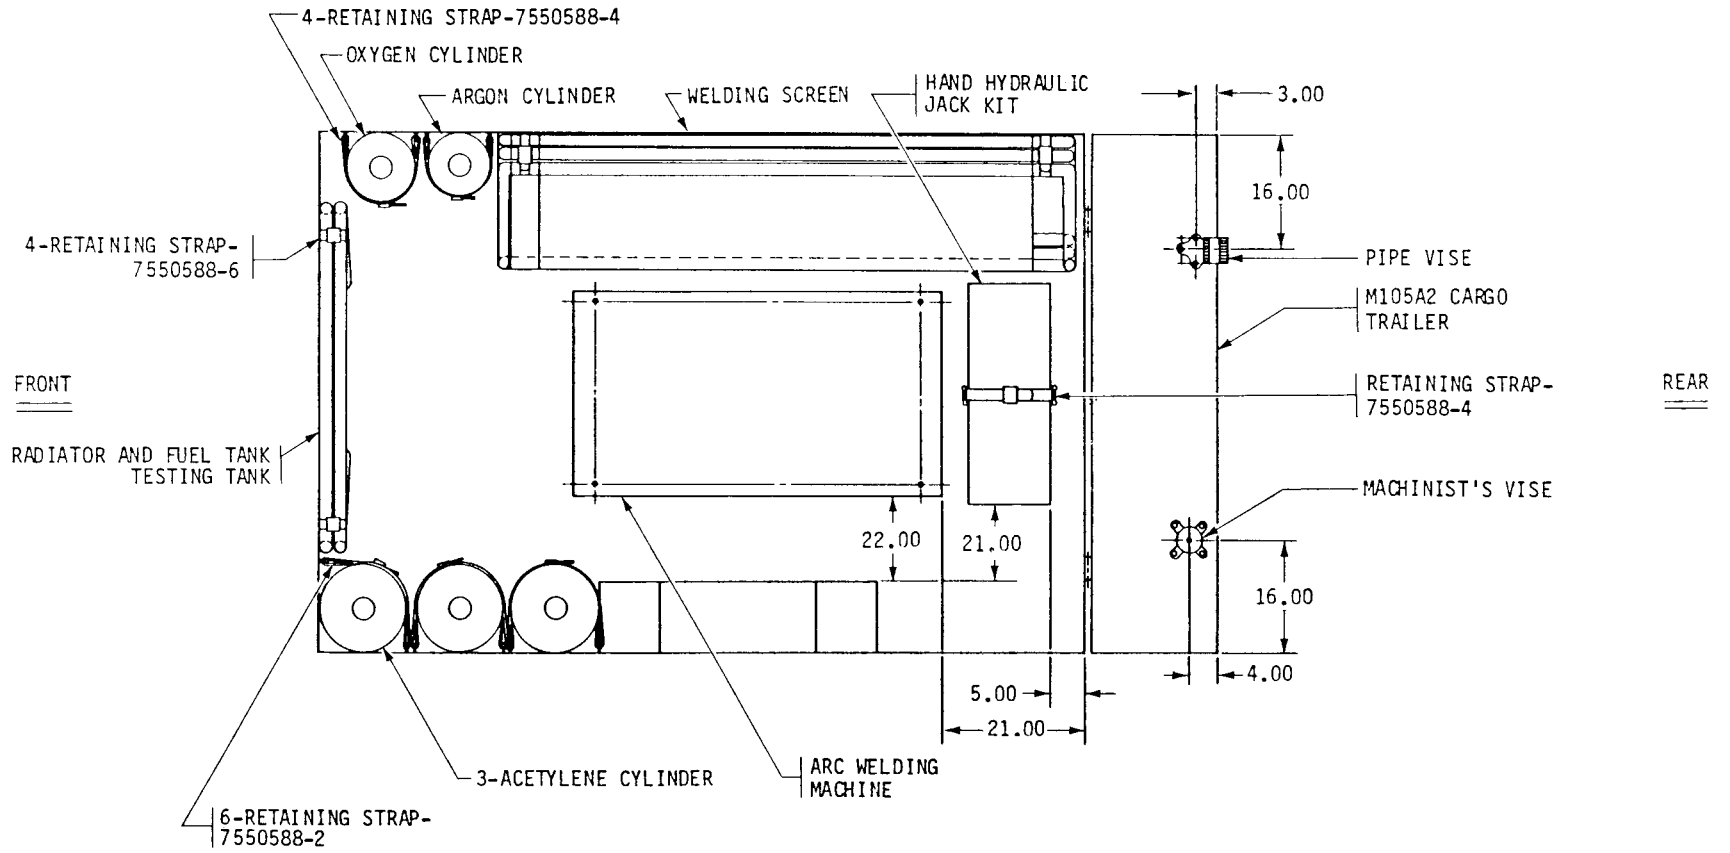
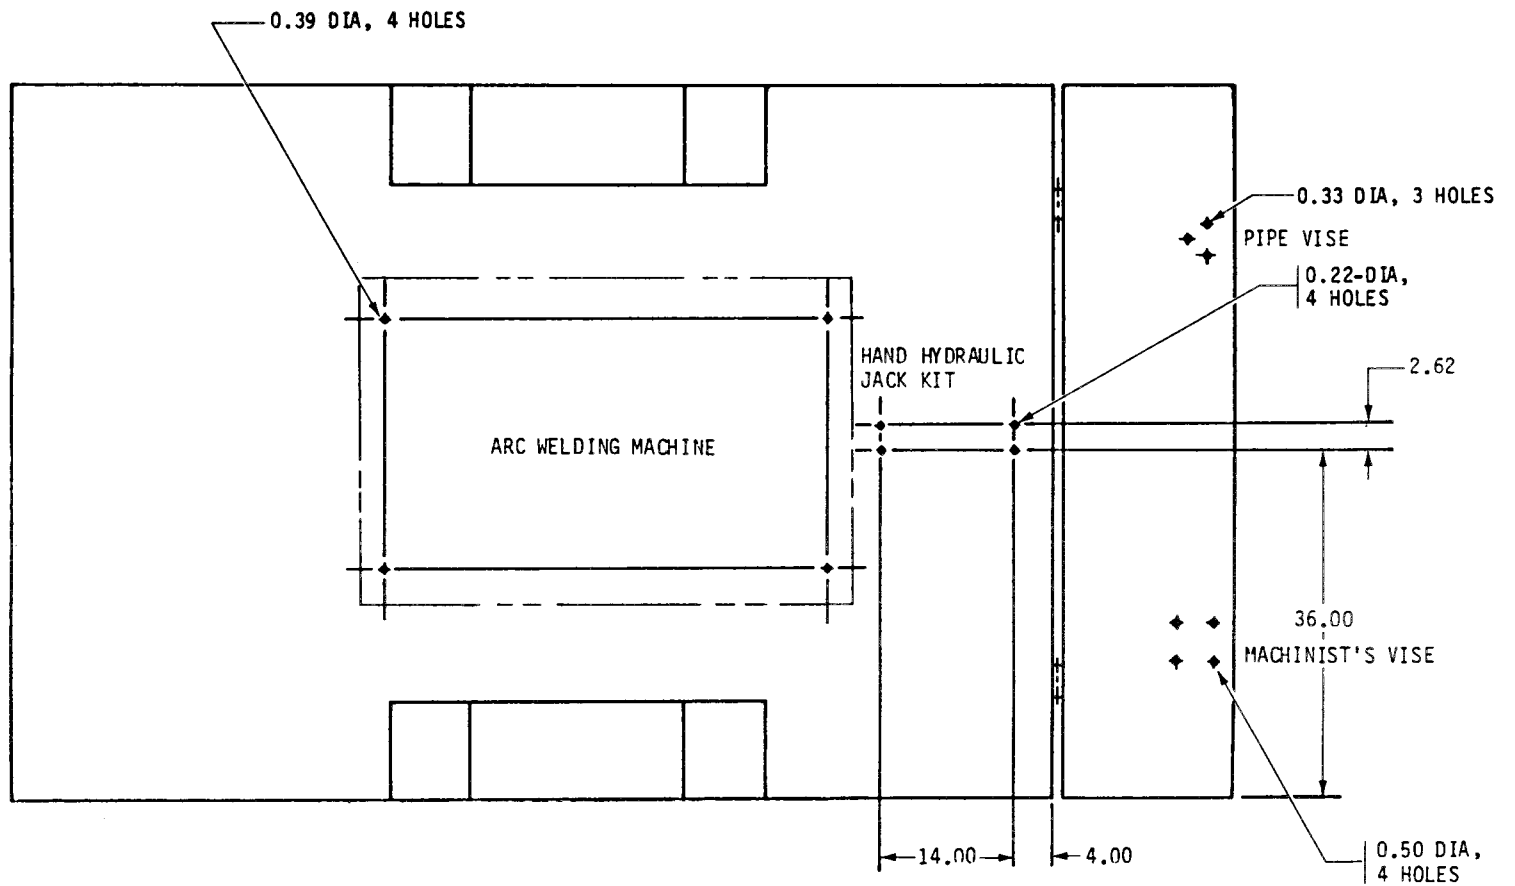

Figure 8. Components to be Mounted, Unit 2, M105A2, Floor Plan.
Figure 9. Hole Dimensions for Blind Rivet Nuts and Strap Loops, Unit 2, M105A2, Floor Plan.
f. Mark and drill four 0.22-in. diameter holes through trailer floor in accordance with dimensions shown in figure 9, unit 2. Secure two strap loops (MS51939-3), using four #10 x 1-
h. Follow steps (1) thru (9) below for equipment installation in unit 2. Refer to figures 8 and 9 for component locations and dimensions.
(1) Position arc welding machine (3431-00-903-5647) in accordance with figures 8 and 13. Mark and drill four 0.39-in. diameter holes through bottom frame of arc welding machine and floor in accordance with figure 9. Secure arc welding machine to floor, using four 3/8- x 3-in. hex head capscrews (MS90725-70) and four 3/8-in. flat washers (MS27183-13); under trailer floor use four 3/8-in. lockwashers (MS35338-46) and four 3/8-in. hex nuts (MS51967-8).
(2) Secure three acetylene cylinders (8120-00-268-3360) to trailer walls, using six 66-in. retaining straps (7550588-9) in accordance with figures 8 and 11.
(3) Secure oxygen cylinder (8120-
00-151-9758) to wall, using two 36-in. retaining straps (7550588-4) in accordance with figures 8 and 13.
(4) Secure argon cylinder (8120-00-357-7992) to wall, using two 36-in. retaining straps (7550588-4) in accordance with figures 8 and 13.
(5) Secure hand hydraulic jack kit (5120-00-595-8387) to floor, using a 36-in. retaining strap (7550588-4) in accordance with figures 8 and 13.
(6) Position machinist's vise (5120-00-293-1439) on trailer tail gate in accordance with dimensions shown in figure 8. Using base as a template, mark and drill four 0.50-in. diameter holes through tailgate (fig. 9). Secure machinist's vise, using four 1/2- x 2-in. hex head capscrews (MS90725-115) and four 1/2-in. flat washers (MS27183-17); under tail gate use four 1/2-in. flat washers (AN970-8) placed on the tailgate opposite the machinist's vise, four 1/2-in. lockwashers (MS35338-48), and four 1/2-in. hex nuts (MS51967-14).
(7) Position pipe vise (5120-00-180-0670) in accordance with dimensions shown on trailer tailgate in figure 8. Using base as a template, mark and drill three 0.33-in. diameter holes through tail gate (fig. 9). Secure pipe vise, using three 5/16- x 1-3/4-in. hex head capscrews (MS90725-39) and three 5/16-in. flat washers (MS27183-11); under tailgate use three 5/16-in. flat washers (AN970-5) placed on the tailgate opposite the pipe vise, three 5/16-in. lockwashers (MS35338-45), and three 5/16-in. hex nuts (MS51967-5).
(8) Position radiator and fuel tank testing tank (4910-00-019-3048) in accordance with figures 8 and 13. Secure to trailer slats, using two 12-in. retaining straps (7550588-6) (fig. 8).
(9) Position welding screen (3438-00-198-8348) in accordance with figures 8 and 13. Secure to trailer
slats using two 12-in. retaining straps (7550588-6) (fig. 8).